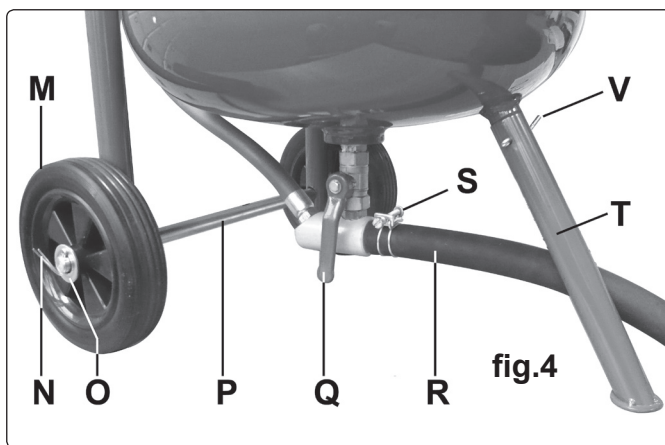

fig.4
- 4.1.3 Referring to fig.4, slide the axle (P) through the holes at the bottom of each handle so that it protrudes equally either side. Slide a wheel (M) onto each end of the axle followed by a washer (O). Fix each wheel by sliding a split pin (N) through the holes in the end of the axle and retain the assembly by bending over the pins.
- 4.2.1 Now lay the tank down on its handles and referring to fig.4, fit the front foot (T) to the spigot welded onto the tank and retain the assembly by putting the split pin (V) through the foot and spigot and bending it over.
- 4.3.1 Referring to fig.4, take the open end of the blasting hose (R) and slide the wire screw clamp (S) over the end of it. Now push the hose fully onto the sand outlet fitting below the sand metering valve and tighten the wire screw clamp to retain it.